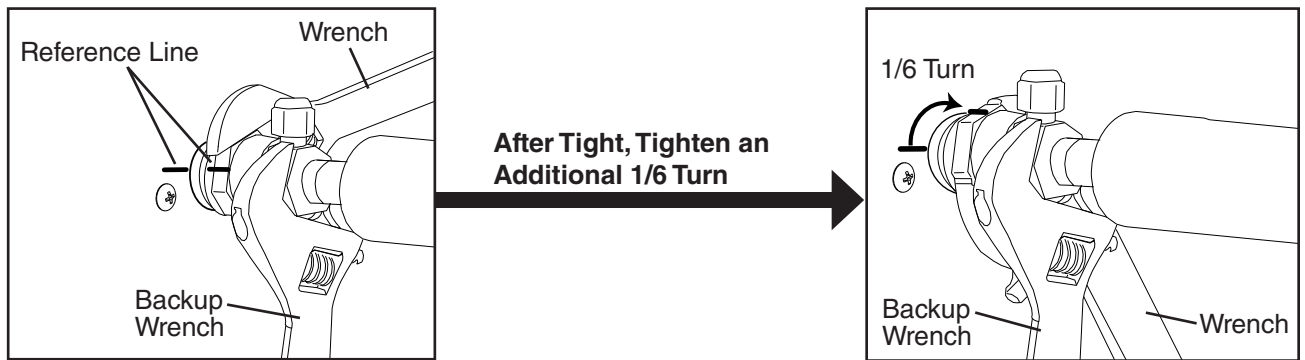

Fig. 16
- e. Mark a reference line on the female coupling and the remote condensing unit or icemaker panel. Using a backup wrench on the back of the female coupling, tighten the six-sided nut of the female coupling an additional 1/6 turn. See Fig. 16.
(1) Factory Line Set Modification